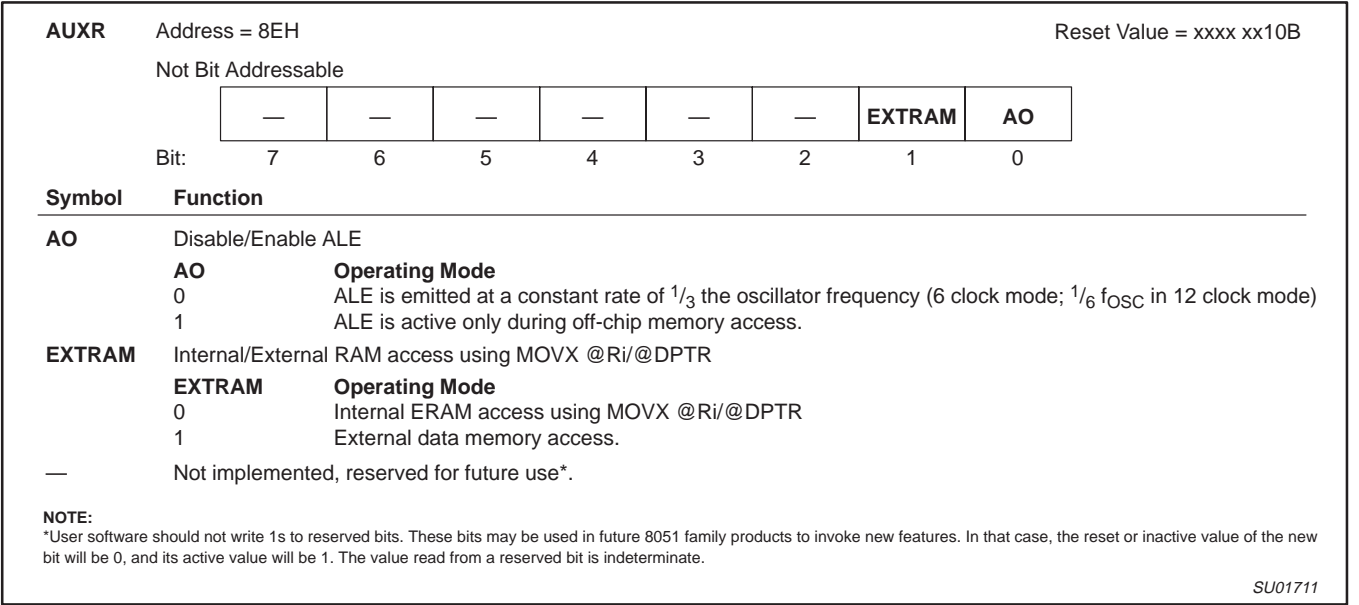

Figure 53. AUXR: Auxiliary Register
4. The 256/768/1792/7936-bytes expanded RAM (ERAM, 00H – XFFH/2FFH/6FFH/1FFFH) are indirectly accessed by move external instruction, MOVX, and with the EXTRAM bit cleared, see Figure 53.